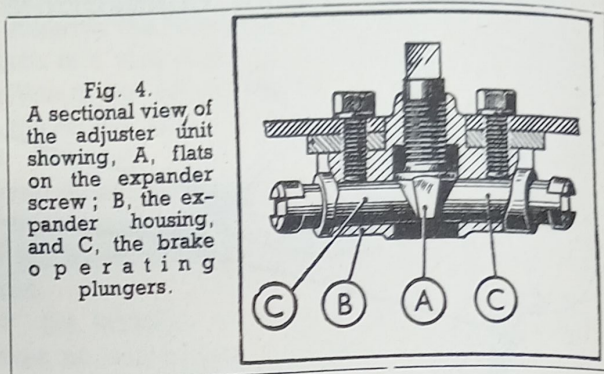

Fig. 4.
The adjuster unit, (Fig. 4) which is held firmly on the back plate by its housing (B) has two somewhat similar plungers (C) held apart by the adjuster (A), a conical ended screw, which provides adjustment to the shoes.